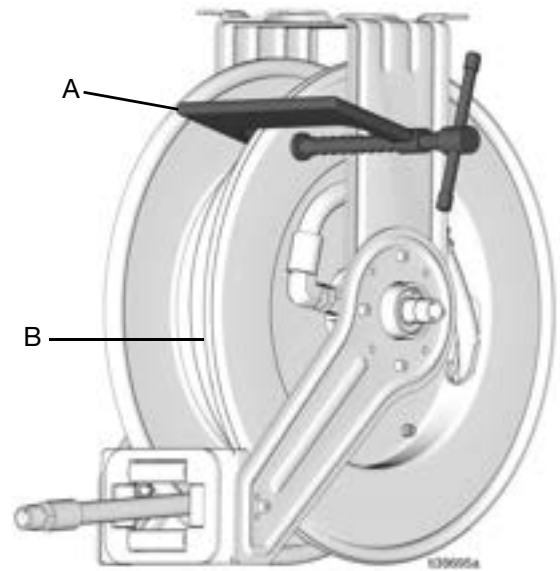

FIG. 12
2. Fully extend the hose (B) and latch the reel (FIG. 12).
3. Attach a C-clamp (A) to the reel flange to prevent the reel from unintentionally becoming unlatched and spinning freely (FIG. 12).
12. Remove the C-clamp (A) (FIG. 12).